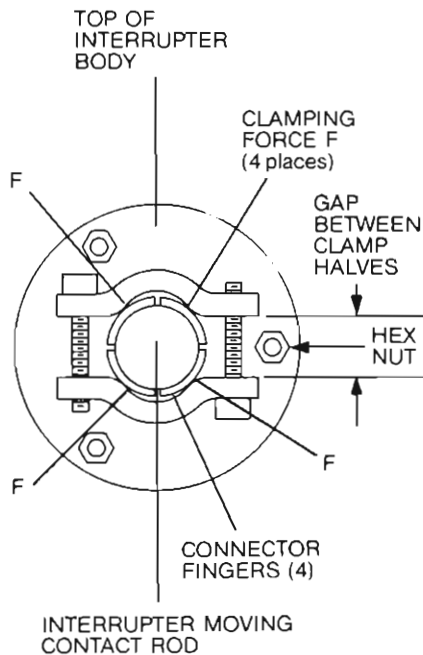

Figure 16.
10. Orient the upper and lower clamp so that clamping force is applied to the center of the contact finger. Then rotate the interrupter so that one of the hex nuts on the top of the interrupter is centered beneath the gap between the clamping elements on one side (Figure 16).